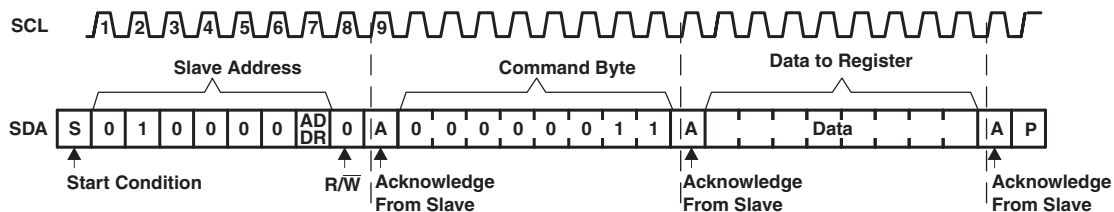

Figure 9. Write to Configuration or Polarity Inversion Register
Two Bytes for READ Input Port Register (see Figure 9)
Timing diagram for the READ Input Port Register (see Figure 9). The diagram shows the sequence of signals for reading two bytes from the register. The signals are: Stop Condition (P), Start Condition (S), Address Bit 7 (MSB), Address Bit 1, R/W Bit 0 (LSB), ACK (A), Data Bit 7 (MSB), Data Bit 0 (LSB), and Stop Condition (P). The timing parameters are defined as follows: